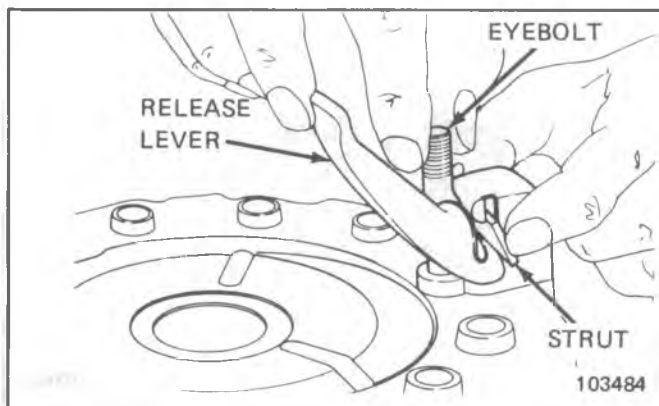

Fig. 7C-19--Grasping Lever and Strut
4. To remove levers grasp lever and eyebolt between thumb and fingers as shown in Figure 7C-19, so that
5. Lift strut over ridge on end of lever, as in Fig. 7C-20.